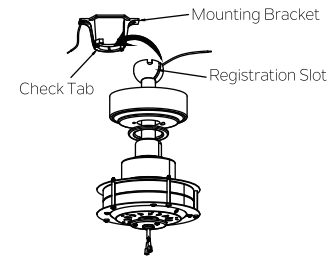

Fig. 9
**Step 5.** Now lift the motor body into position and place the hanger ball into the mounting bracket. Rotate until the "Check Tab" has dropped into the "Registration Slot" and seats firmly. ( Fig. 9) The entire motor body should not rotate if this is done correctly.